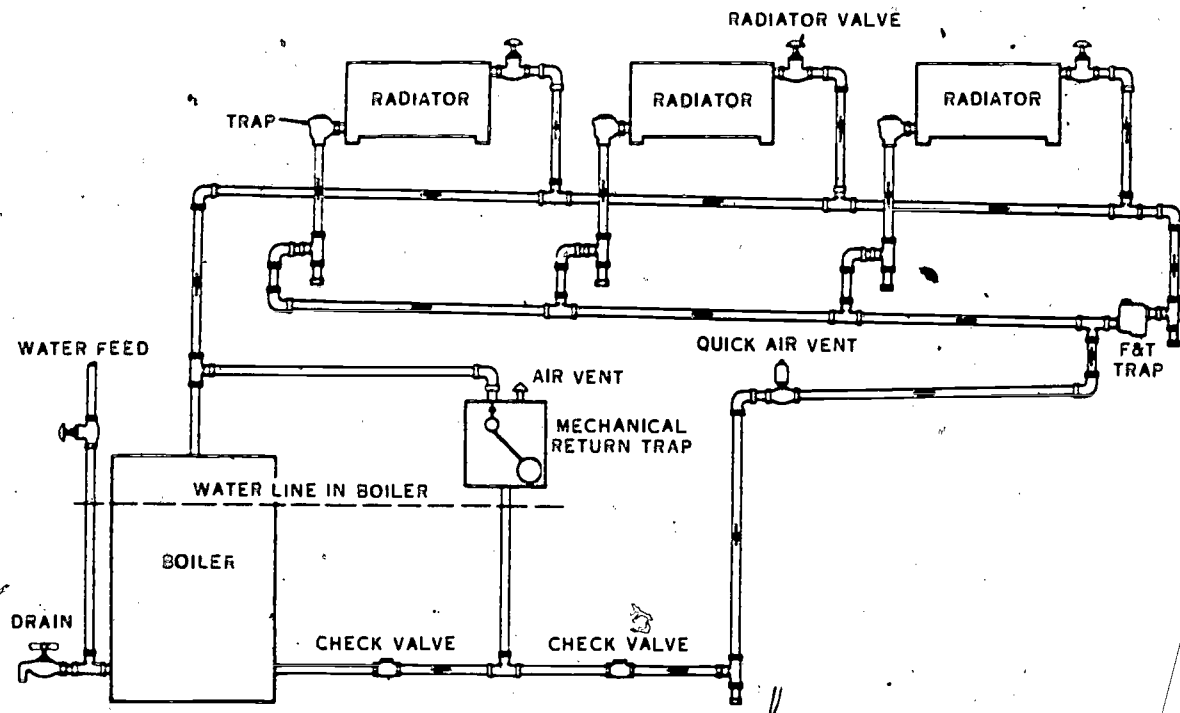

Figure 50. A two-pipe vapor system with a return trap.
13. **Two-Pipe Vapor System with a Return Trap.** The two-pipe vapor system with an alternating return trap, illustrated in figure 50, is an improvement over the one-pipe system. The return from the radiator has a thermostatic trap which permits the flow of condensate and air from the radiator. It also prevents steam from leaving the radiator. Because the return mains are at atmospheric pressure, or less, a mechanical return trap is installed in the system to equalize the condensate return pressure with the boiler pressure. The mechanical return trap is primarily a double-valve float mechanism, which permits equalization of the boiler pressure and the pressure within the return trap.